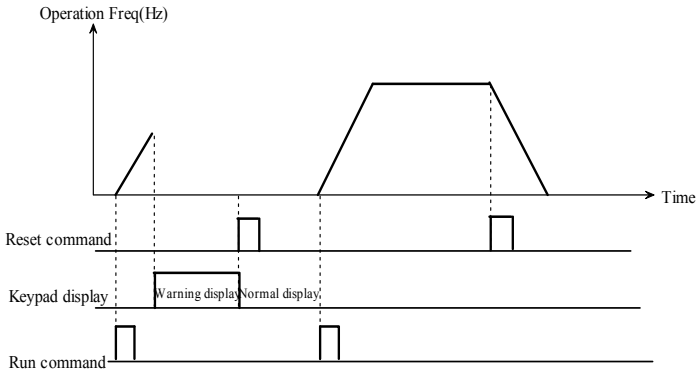

Fig. 5-3-1 Terminal reset
- ◆ In fault state, the inverter can be reset by pressing “STOP/RESET” on keypad or by terminal which is defined as RST function. In running state, enabling this terminal function can stop the inverter according to selected stop mode. RST function is rising-edge-triggered, so it must be operated as “disabled-enabled-disabled”, shown in Fig. 5-3-1.